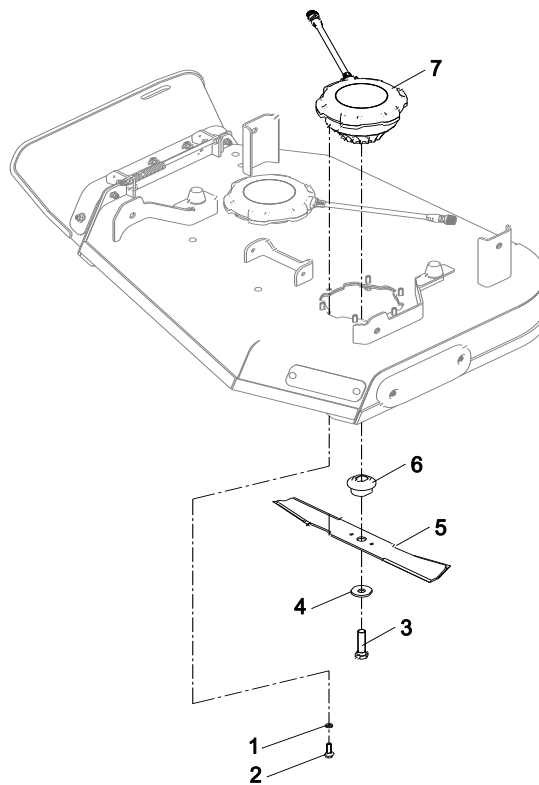

Fig. 1
2. Rotate the fastening nut (9) counterclockwise and make sure the blade power cord tail clip (8) and motor end tail clip (10) are separated.
4. Refer to Fig. 1, using a hoisting tool to hoist the front end of the deck to a certain angle.
6. Use a 13 mm socket wrench to loosen the bolt (2) by rotating counterclockwise.
7. Remove the bolt (2) and the spring washer (1) altogether.
8. With six sets of bolt and washer (1, 2) removed from each motor, remove the blade motor (7) from the deck.